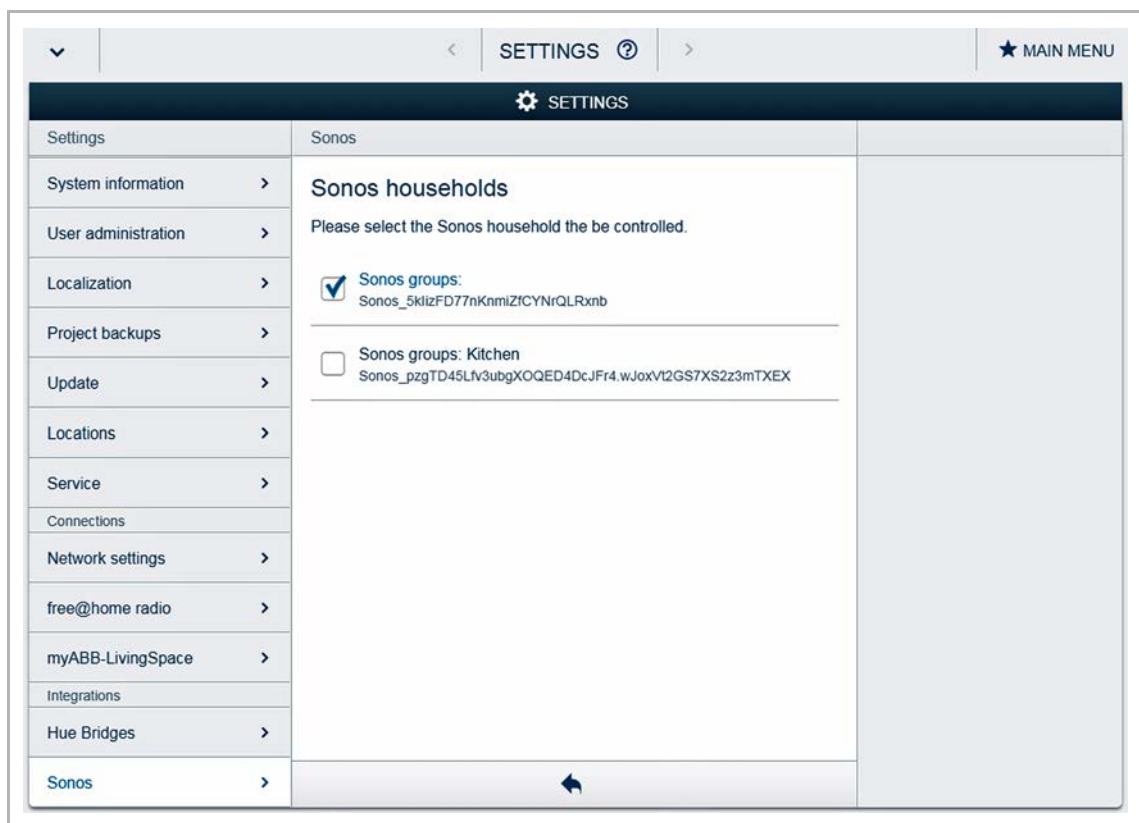

Fig. 102: Establishing a connection to a Sonos system
1. For connection to a Sonos system, see Fig. 102.